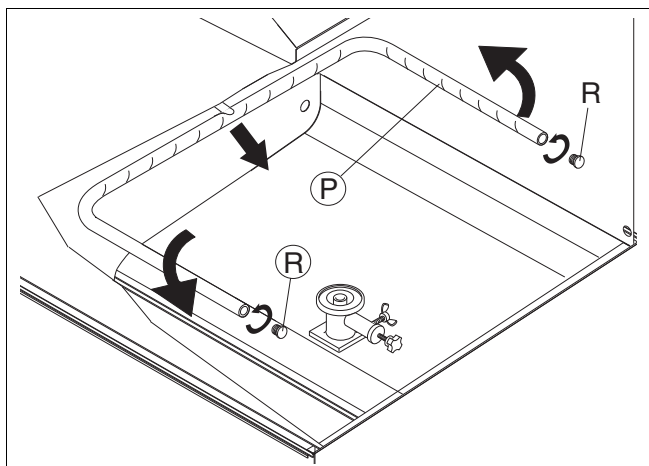

Figure 26 Fixed wash arm removal
- Remove jet "P" (Figure 26) by turning it clockwise and pulling it out.
- Unscrew plugs "R" (Figure 26) from the side jets.